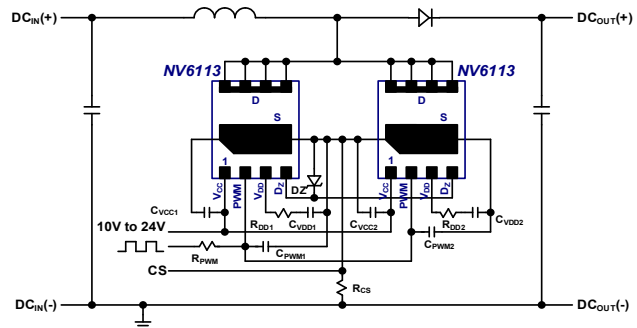

Fig. 25. Boost schematic using two parallel ICs
For some applications it is desirable to parallel ICs in order to reduce conduction losses and temperatures. Two GaNFast power ICs can be connected in parallel in a PFC boost application working in boundary-conduction mode (BCM) only. This configuration is shown in Fig. 25. The paired pins that are connected together include the drain pins (D), the source pins (S), the  $V_{CC}$  pins, the PWM pins, and the  $D_Z$ . A single  $D_Z$  diode can be shared by both ICs. The  $V_{DD}$  pins are not connected together and require separate  $V_{DD}$  supply capacitors ( $C_{VDD1}$ ,  $C_{VDD2}$ ) and separate turn-on current set resistors ( $R_{DD1}$ ,  $R_{DD2}$ ). Each IC should have its own local  $V_{CC}$  supply filter capacitor ( $C_{VCC1}$ ,  $C_{VCC2}$ ). The PWM pins can have a single filter resistor ( $R_{PWM}$ ) but separate filter capacitors ( $C_{PWM1}$ ,  $C_{PWM2}$ ) should be placed at the PWM pin of each IC. When designing the PCB layout for the two paralleled ICs, the drain and source connections should be made as symmetrical as possible to avoid any parasitic inductance or capacitance mismatch. A proper PCB layout example for paralleling is shown in Section 10.